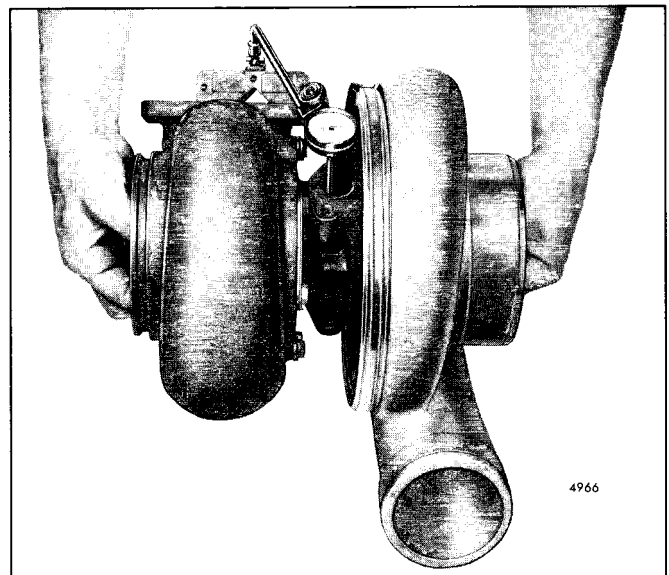

Fig. 15 - Checking Shaft Radial Movement
19. Position the compressor housing (2), as marked at disassembly, against the backplate (14) and secure it in place with the "V" band coupling (1). Lightly lubricate the threads of the toggle bolt with engine oil and tighten the nut to 110-130 lb-in (12-15 N*m) torque.
- a. Position the magnetic base J 7872-2 with the swivel adaptor J 7872-3 on the flat surface of the turbine housing inlet flange (Fig. 15).
- d. Grasp each end of the rotating assembly and, applying equal pressure at each end, move the rotating shaft first toward and then away from the dial indicator, creating a transverse movement in the shaft (Fig. 15). The dial indicator displacement should be between .003" and .007". If the displacement does not fall within these limits, disassemble and repair or replace the rotating assembly.